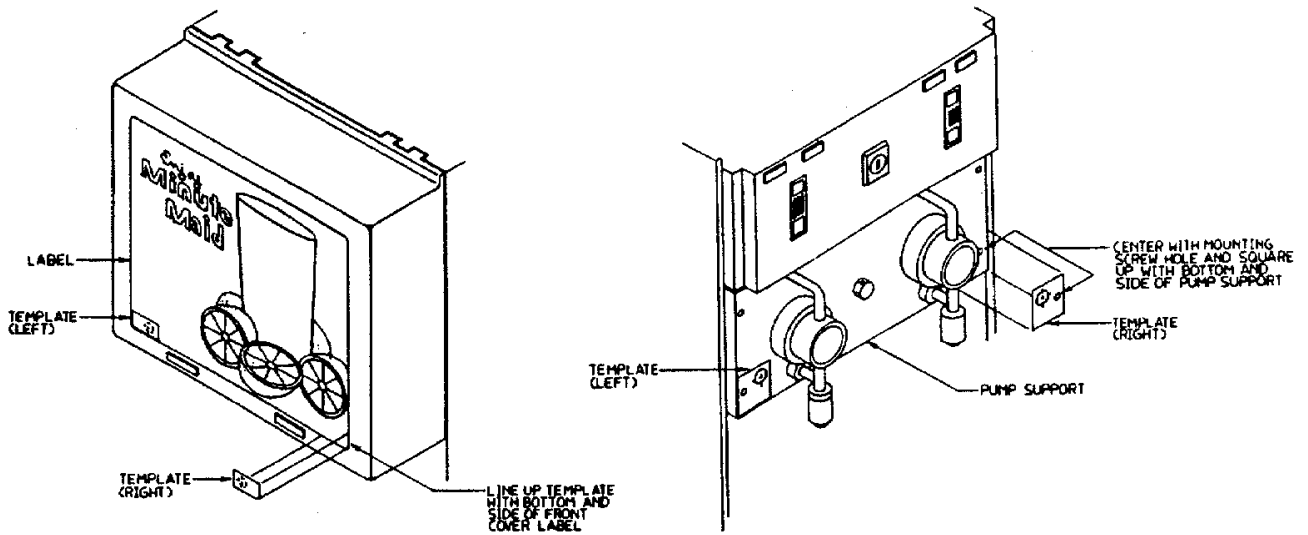

Figure 2
- A. Place each part of template in proper location as shown in Figure 2, each template section is marked for correct location. *This must be done precisely to ensure proper alignment.*
- B. Holes to be drilled as shown by the four (4) dotted circles. *It will be necessary to remove front cover to drill holes.*